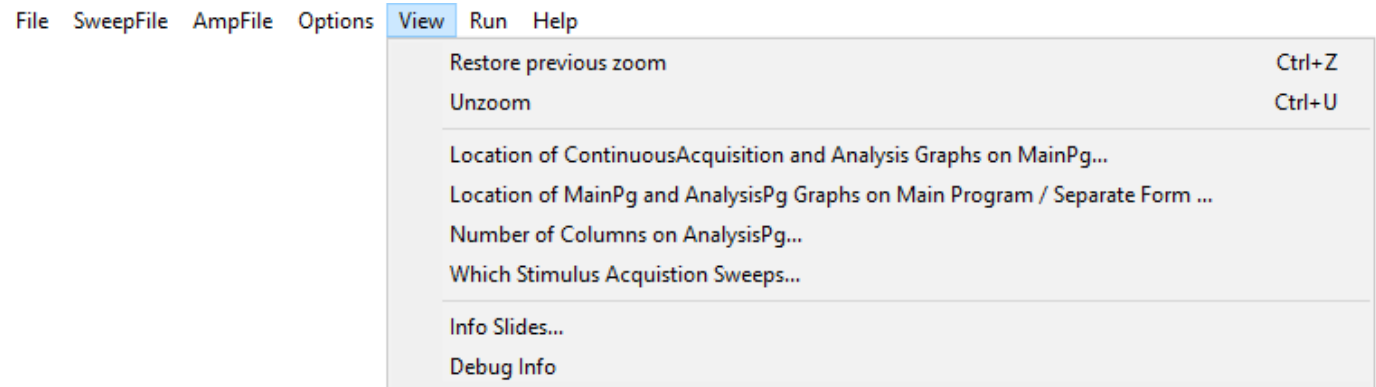
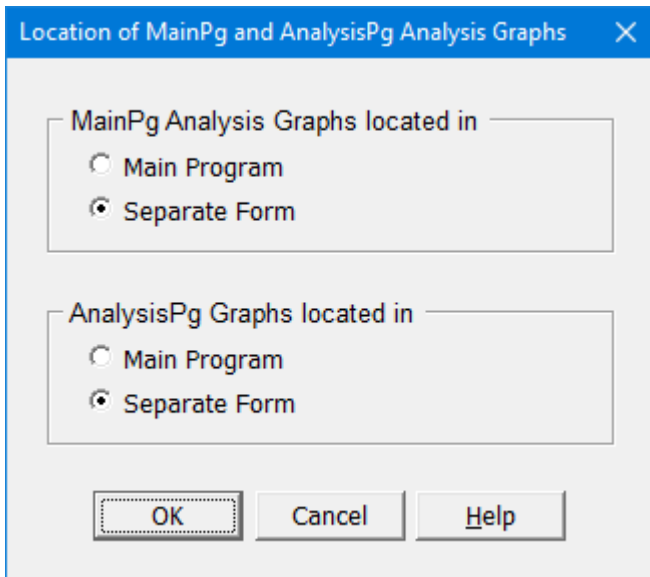
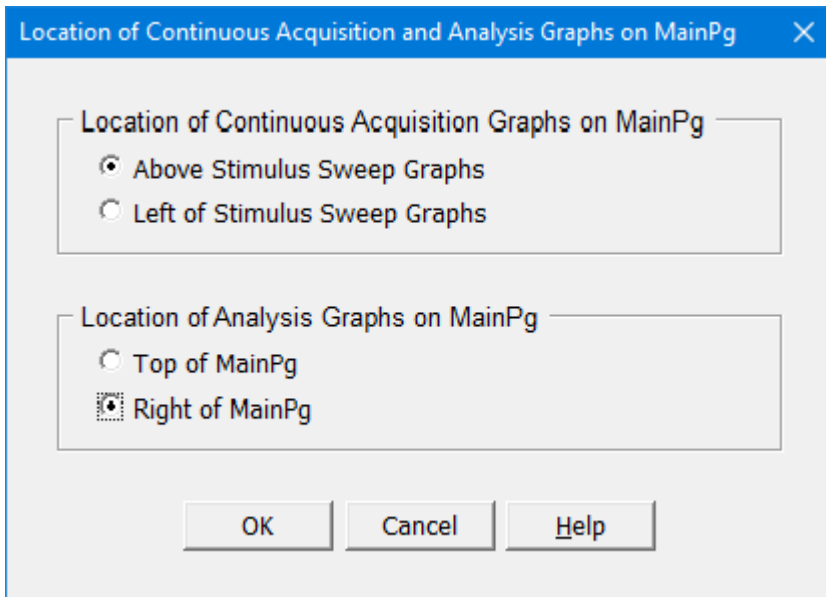

Fig. 3.2.5. View Menu.
Fig. 3.8.2. Location of MainPg and AnalysisPg Analysis Graphs to either be in the Main Program or in a Separate Form that can be on a second monitor.
Fig. 3.9.1. Location of Continuous Acquisition Graphs (top), and Analysis Graphs (bottom) on MainPg dialog box.
- 5) **V**iew Menu (Fig. 3.2.5)
To choose the location of the MainPg Analysis Graphs and the AnalysisPg Analysis Graphs, call up the Location of MainPg and PanalysisPg Analysis Graphs dialog box (Fig. 3.8.2) by using the View menu command (Fig. 3.2.5):
When the Analysis Graphs on the MainPg, they can either be located at the top (Fig. 3.1.1) or on the right (Fig. 12.2) of the MainPg. To change the location of the Analysis Graphs on the MainPg, call up the Location of Continuous Acquisition and Analysis Graphs on MainPg dialog box (Fig. 3.9.1) by using the View menu command (Fig. 3.2.5):
To change the location of the Continuous Acquisition Graphs on the MainPg, call up the Location of Continuous Acquisition and Analysis Graphs on MainPg dialog box (Fig. 3.9.1) by using the View menu command (Fig. 3.2.5):
In the Stimulus Acquisition Sweep area of the MainPg, usually only the latest P0, P1, T0 or T1 sweep appears. However, several other acquisition sweep combinations that can be plotted. To change the acquisition sweeps that appear on the MainPg area use the View menu command (Fig. 3.2.5):